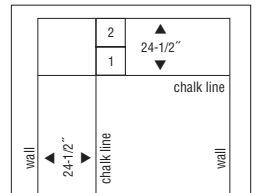

Figure 8
- Lay the second floor tile ahead of the first tile to fit 1/2" (13 mm) from the starting wall. Gently lock in the tongue-and-groove between the first and second floor tiles (Figure 8).
- Re-check to be sure both floor tiles are properly lined up with the chalk line. This is to assure a square starting area (Figure 8).